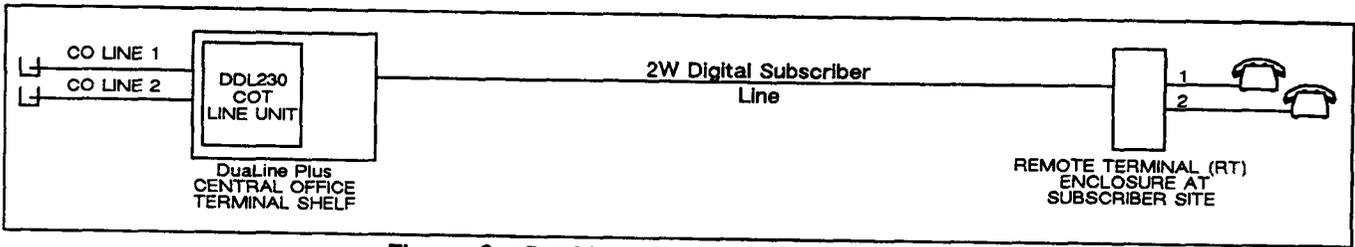

Figure 2. DualLine Plus System Configuration
2.01 The Wescom DDL230 DualLine Plus Central Office Terminal (COT) Line Unit (LU) connects 2 CO POTS lines to a Digital Subscriber Line (DSL). A DualLine Plus Remote Terminal (RT), located near a subscriber's location, converts the DSL into 2 POTS lines for a subscriber's telephones (see Figure 2). Refer to Section 11 for information regarding the 2-wire range, DC supervisory range, DSL impedance, etc.